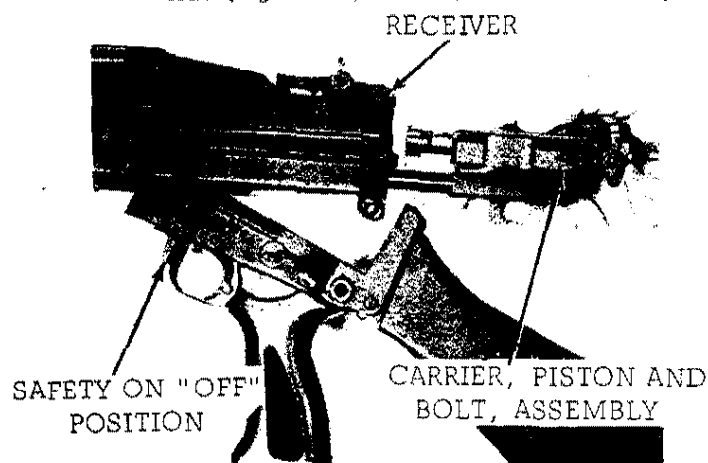

FIGURE 13. REMOVING THE CARRIER-PISTON AND BOLT ASSEMBLY
(4) Place the right hand over the back of the receiver and rotate the muzzle up slowly. The carrier, piston and bolt assembly will slide out of the receiver (figure 13).